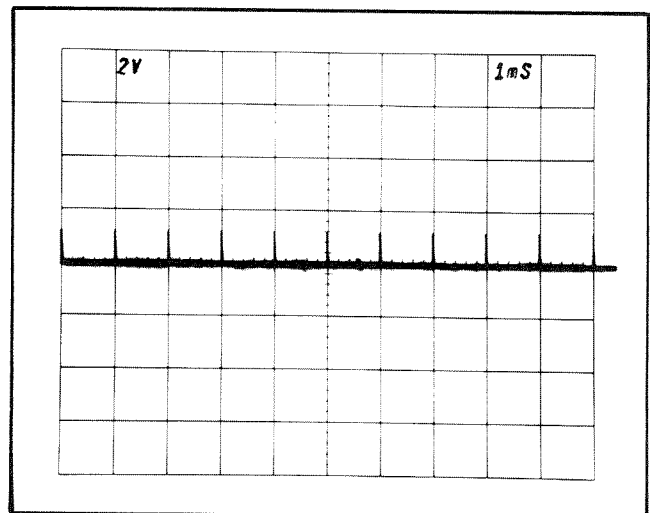

Fig. 5-4. CRT display showing SWP CAL adjustment correctly set.
d. CHECK—CRT display for one 1 ms marker for each division between the second and tenth vertical lines (see Fig. 5-4).